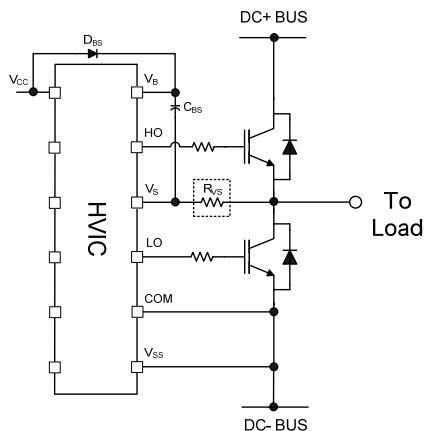
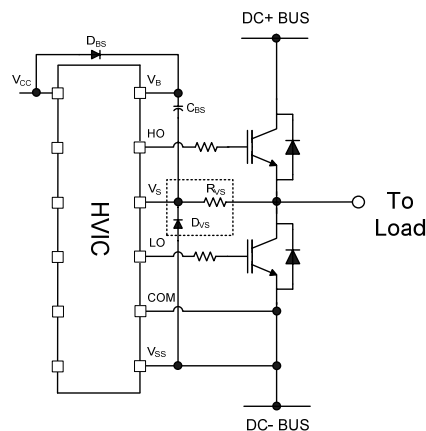

Figure 6:  $V_S$  resistor
Figure 7:  $V_S$  clamping diode
**Routing and Placement:** Power stage PCB parasitic elements can contribute to large negative voltage transients at the switch node; it is recommended to limit the phase voltage negative transients. In order to avoid such conditions, it is recommended to 1) minimize the high-side emitter to low-side collector distance, and 2) minimize the low-side emitter to negative bus rail stray inductance. However, where negative  $V_S$  spikes remain excessive, further steps may be taken to reduce the spike. This includes placing a resistor (5  $\Omega$  or less) between the  $V_S$  pin and the switch node (see Figure 6), and in some cases using a clamping diode between  $V_{SS}$  and  $V_S$  (see Figure 7). See DT04-4 at [www.irf.com](http://www.irf.com) for more detailed information.